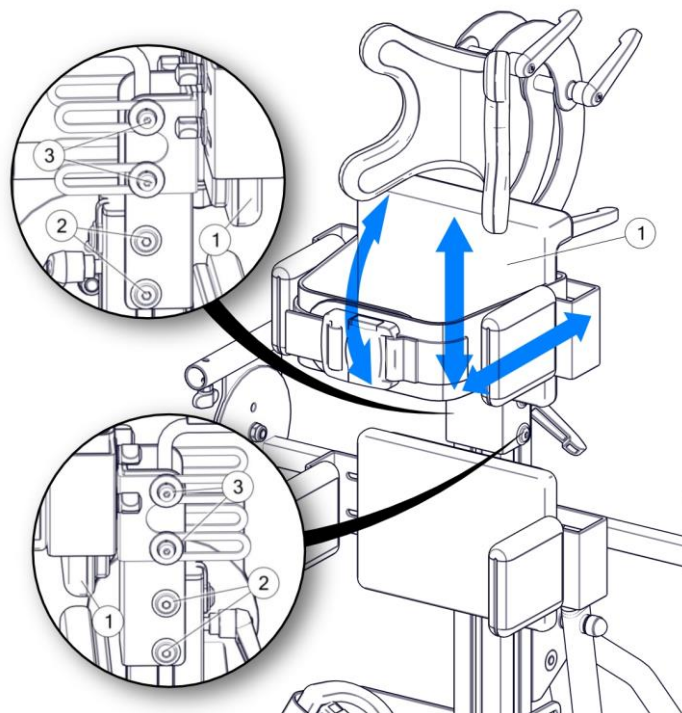

Figure 8
7.4. Lateral support (hip or chest support) – Figure 8